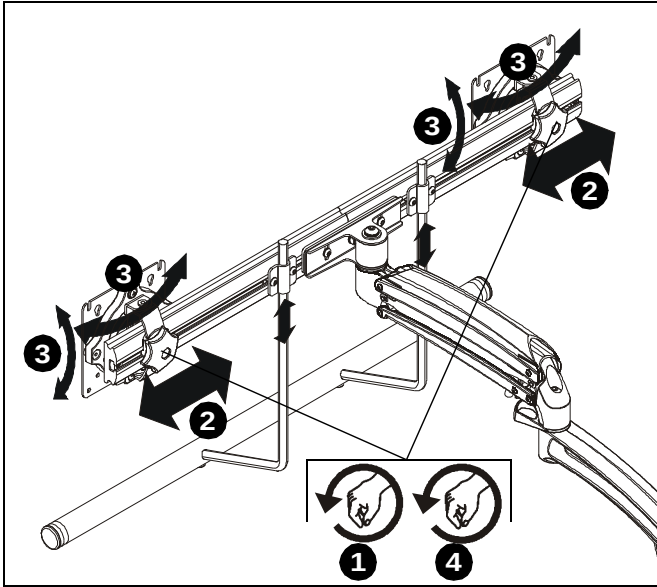

Figure 17
1. Loosen knobs securing faceplates to array. (See Figure 17)
2. Slide displays laterally on array to adjust lateral shift. (See Figure 17)
3. Adjust pitch and pivot position as desired. (See Figure 17)
4. Tighten knobs to secure faceplates in position. (See Figure 17)